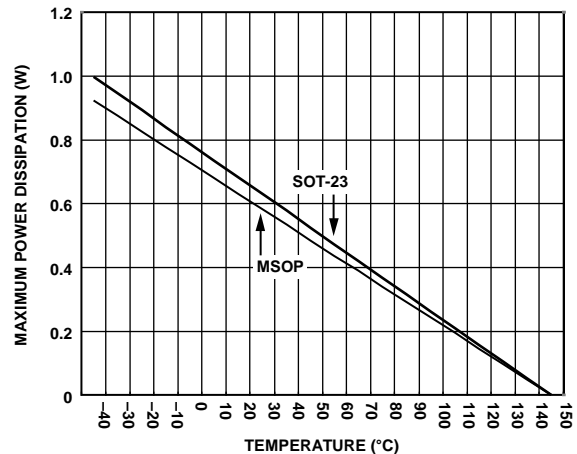

Figure 3. Plot of Maximum Power Dissipation vs. Temperature
Guaranteed by design and characterization, not production tested. All input signals are specified with  $t_r = t_f = 5 \text{ ns}$  (10% to 90% of  $V_{DD}$ ) and timed from a voltage level of 1.6 V. See Figure 3.
1Values relate to the package being used on a standard 2-layer PCB. Reference Figure 3 for a plot of maximum power dissipation versus ambient temperature (TA).